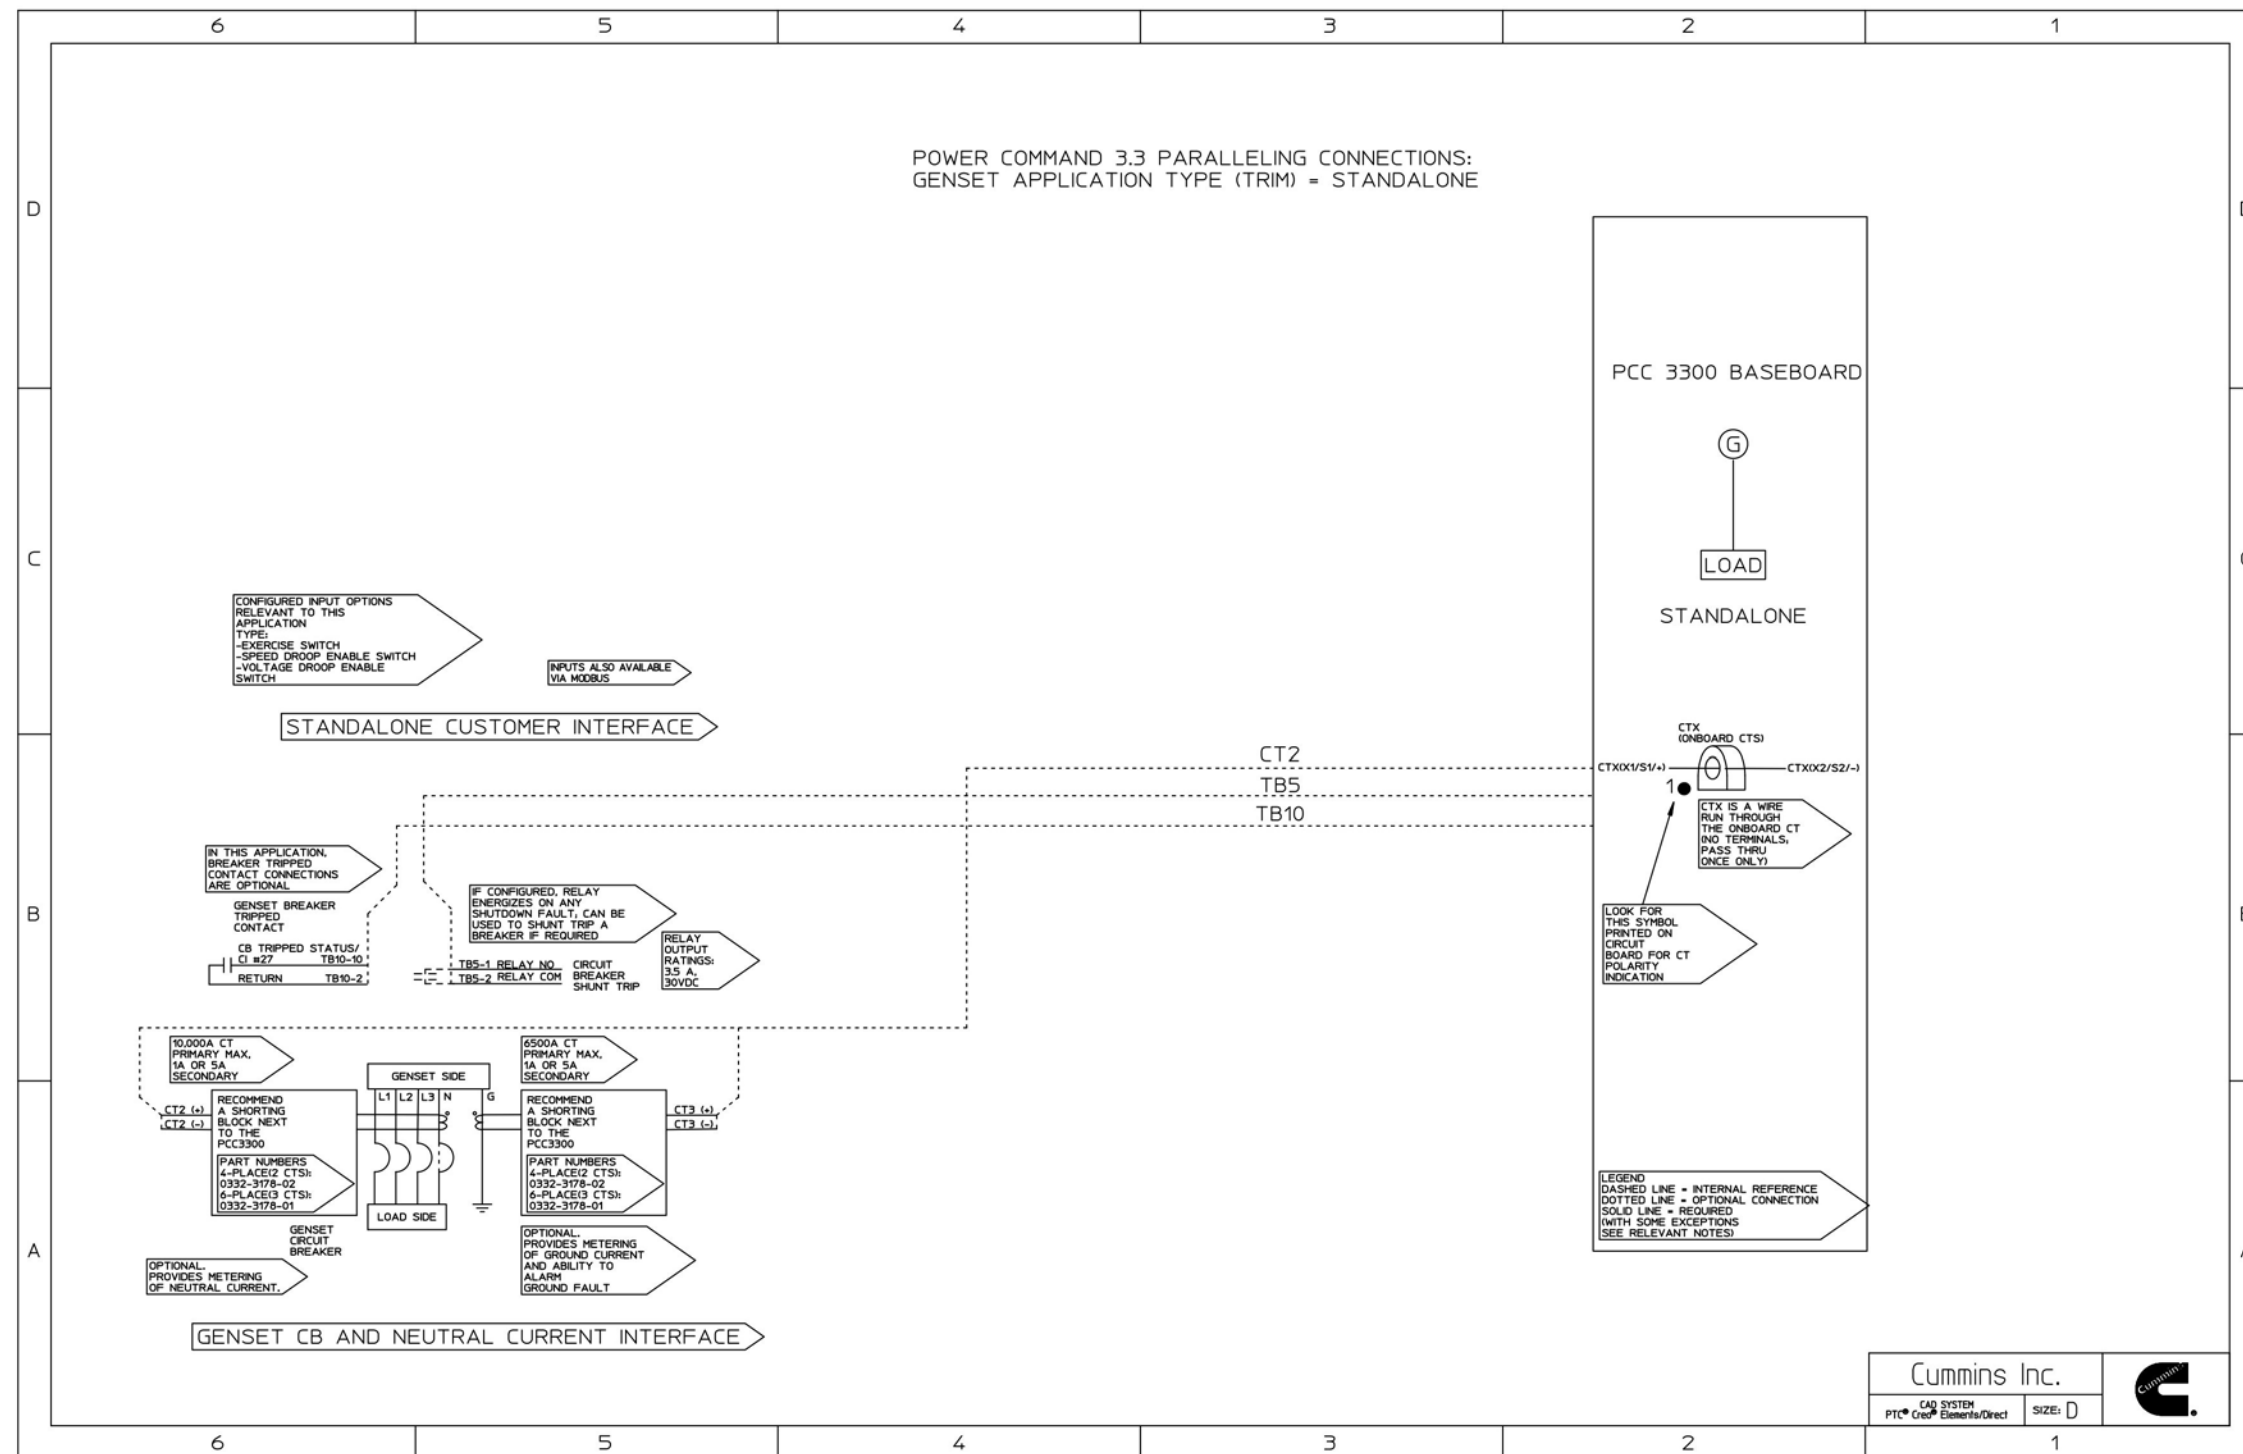

FIGURE 76. POWERCOMMAND 3.3 PARALLELING CONNECTIONS - STANDALONE GENERATOR SET
- Figure 76. PowerCommand 3.3 Paralleling Connections - Standalone Generator Set 131